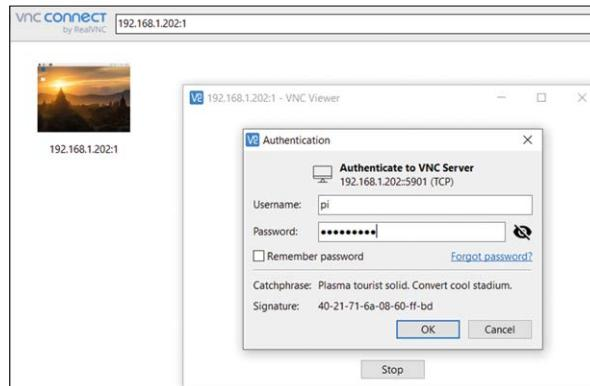

Figure 2.9: Start the TightVNC and enter the IP address.
- Start the **TightVNC Viewer** on your PC and enter the Raspberry Pi IP address (see Figure 2.9) followed by :1. Click **Connect** to connect to your Raspberry Pi.